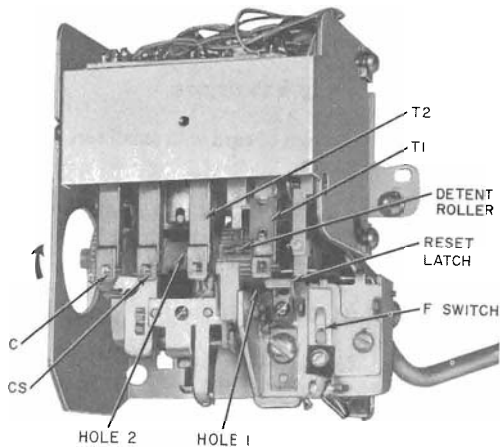

Fig. 4—Checking Totalizer Rate
**Use extreme care when checking initial rate or resetting totalizer. Avoid damaging pawl and spring pile-ups. Do not attempt to turn totalizer cam shaft in direction opposite to that shown in Fig. 4.**
- (1) Remove 1A10A chute-totalizer per 2.08.
- (2) Loosen screw and remove transparent dust cover.
- (3) Rotate shaft in the proper direction (Fig. 4) until detent roller on inside ratchet wheel is positioned between the two black marks. This occurs at the same time T2 rests in depression in shaft. This position is called **home** position.
- (4) Slowly rotate shaft in proper direction, and count the steps until T1 springs operate.
- (5) Each step rotated from **home position** represents a 5-cent rate as shown in Table C.
- (1) Rotate shaft in proper direction (Fig. 4) until it is in home position as described in 2.10(3).